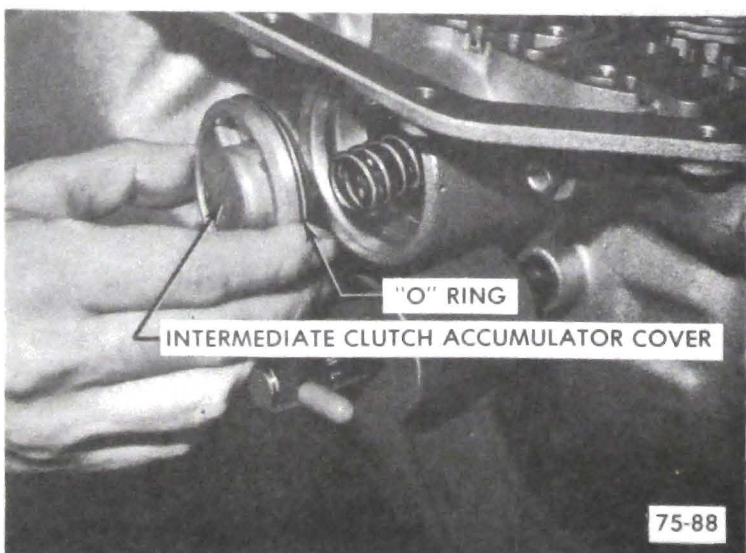

Figure 75-129
3. Place "O" ring seal on intermediate clutch accumulator piston cover, and install cover into case. See Figure 75-129.